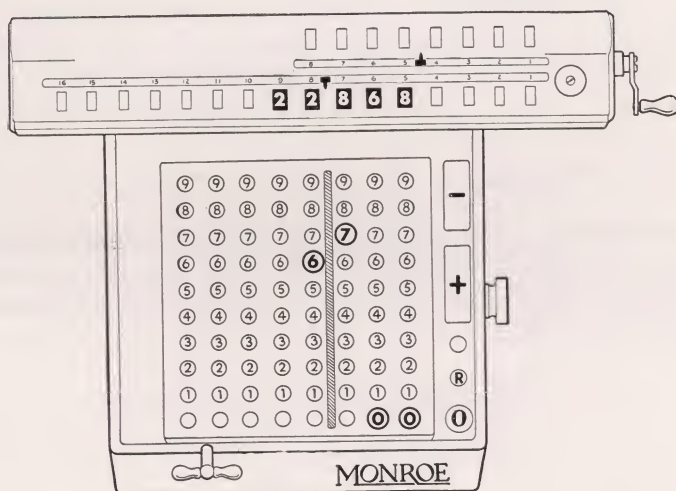

Figure 9
Step 4—The first operation is to add the dividend, 22.868, in the lower dials. Set 22.868 on the keyboard. Move the carriage to the “5” position so that 22.868 will show in the lower dials correctly pointed off at the decimal point in the 7th place. See Figure 9.
Step 6—Set 6.7 on the keyboard so that it appears as 6.700. Have the carriage in the “5” position so that 6.7 can be subtracted from the 22.8 of the dividend. See Figure 9.